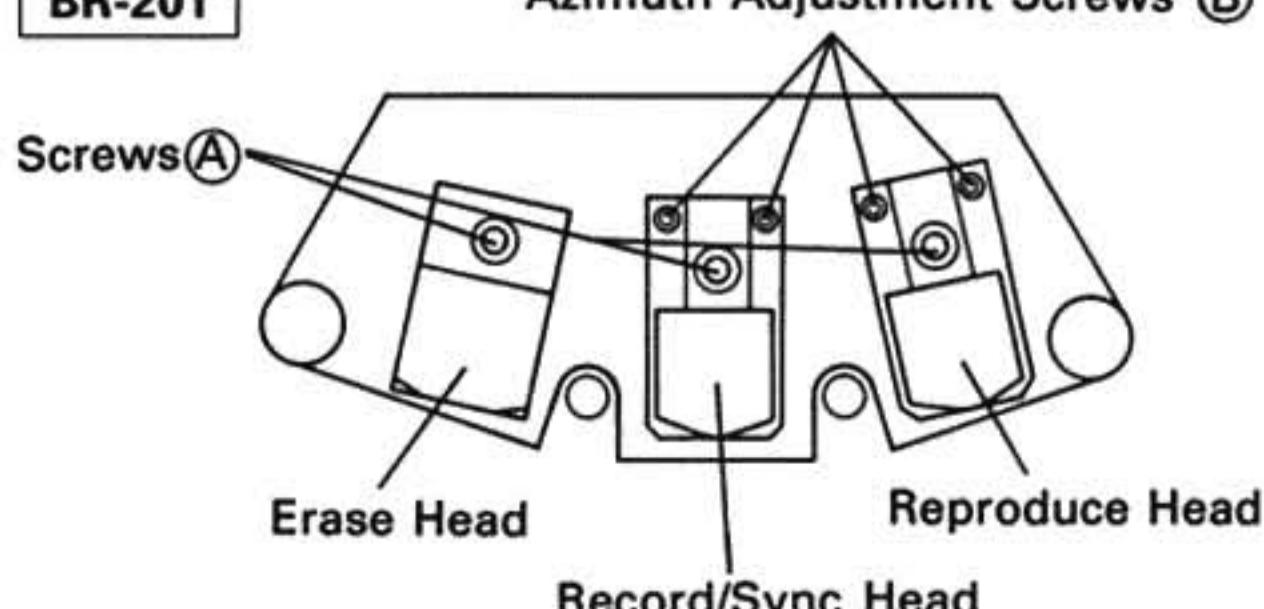

Figure 5-13. Head Adjustment Screws
2. Loosen the "A" screw(s) shown in Figure 5-13, and, holding the upper area of the erase head, tilt left and right for best erasure, and retighten the "A" screw(s) to block the head where a maximum erasure is measured.
- Refer to Figure 5-13. Loosen tape contact adjustment screw "A" and azimuth adjustment screws "B" on the head being checked.
- To adjust the azimuth adjustment screws "B" shown in Figure 5-13, note the following;